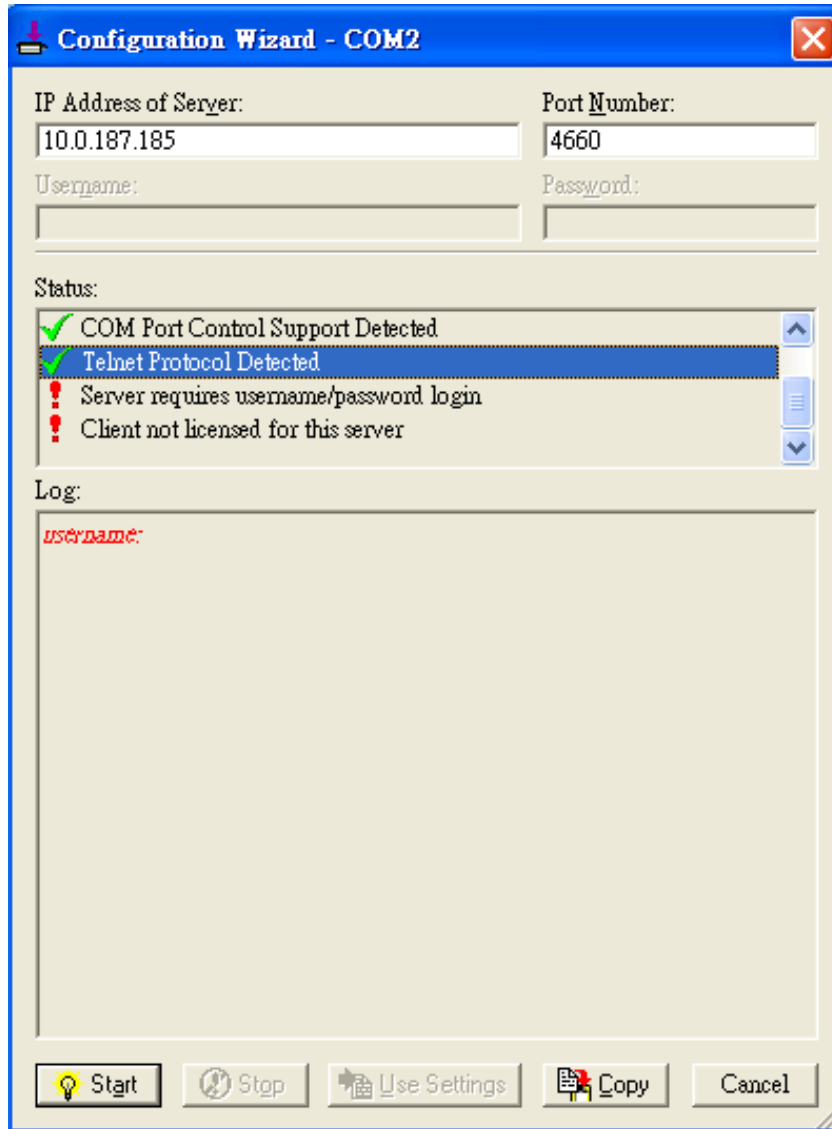

Figure 6.14 VCOM Authentication failed due to Missing Username/Password
- If the status reports with an exclamation mark with a message “**Server requires username/password login**” as shown in Figure 6.14. This means that the **VCOM Authentication** option in the serial device server (i.e. SE59XX) is enabled but the **User Credentials** option in the **Serial/IP** utility software is not enabled. Please follow the steps in Section 4.11.2 for enabling the user credentials option and entering the username and the password.